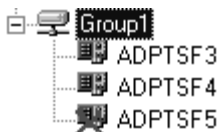

Figure 9-18. Example of disabled ports
- Disabled ports are marked with an [x], such as ADPTSF3 shown in Figure 9-18.